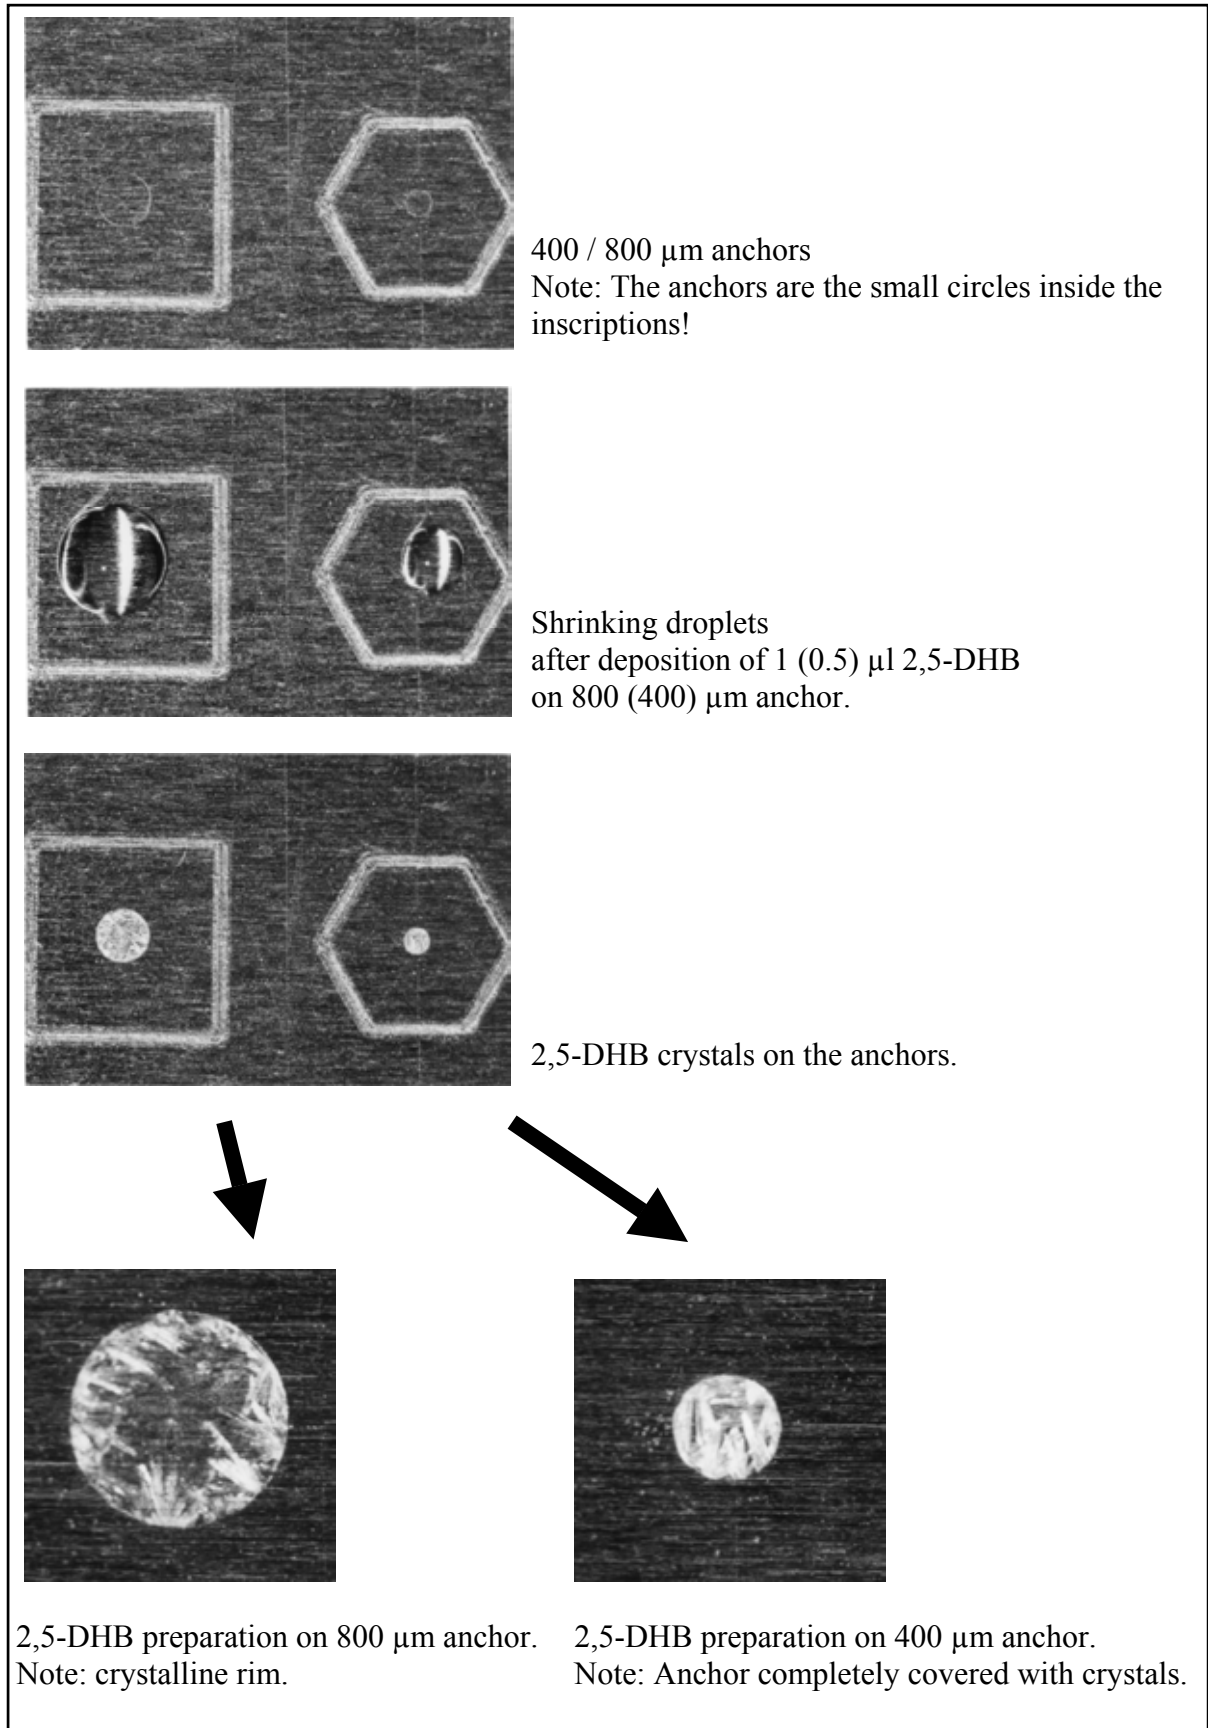

Fig. 2: 2,5-DHB preparation on AnchorChip™
- The 400 µm anchor should be well-covered with matrix crystals (fig. 2). Microscopic inspection is recommended.
The pictures shown in fig. 2 on the next page demonstrate the typical procedure for 2,5-DHB / SDHB AnchorChip™ preparations.
- 3-HPA AnchorChip™ preparations without DAC look pretty much the same as 2,5-DHB preparations (fig. 2). With the addition of DAC matrix crystals look more milky than 2,5-DHB crystals. As for 2,5-DHB, 400 µm anchors should be well-covered with matrix. Crystalline rim preparation on 800 µm anchors is recommended for difficult samples.